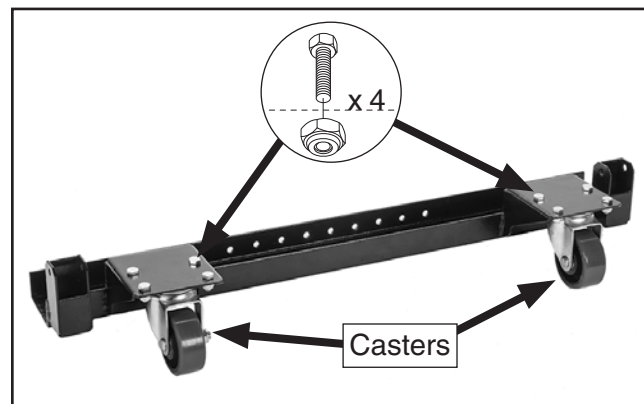

Figure 5. Swivel casters attached to leg support channel bracket.
5. Attach swivel casters to each side of leg support channel bracket using (8) M8-1.25 x 16 hex bolts and (8) M8-1.25 lock nuts (see **Figure 5**).